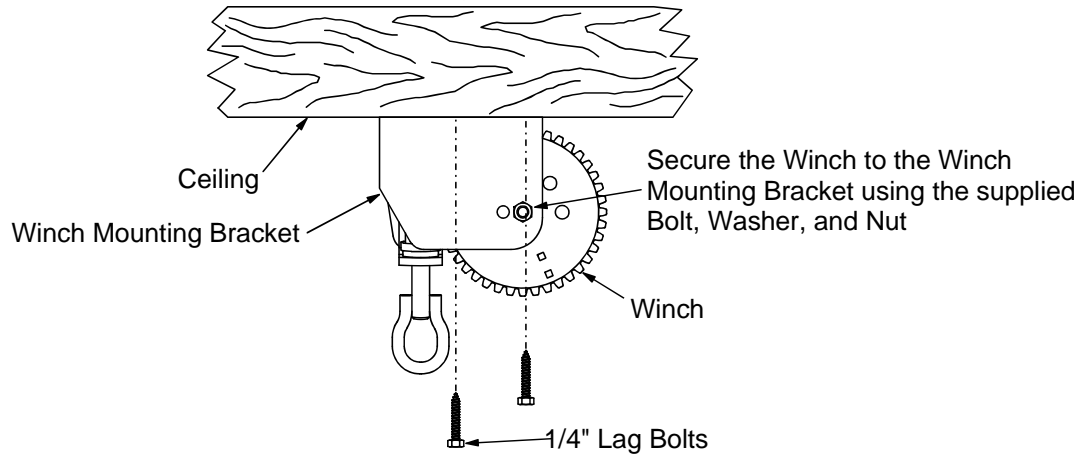

Figure 6. Winch Mounting
4. Mount the split drum winch as shown in **Figure 6**. Mount the winch to the ceiling or on a 2 x 8" [50 x 200 mm] board spanning at least two rafters for support. Use at least (4) 1/4" lag screws (not supplied) to secure winch to support.
5. Bolt the winch to the bracket, as shown in **Figure 6**.